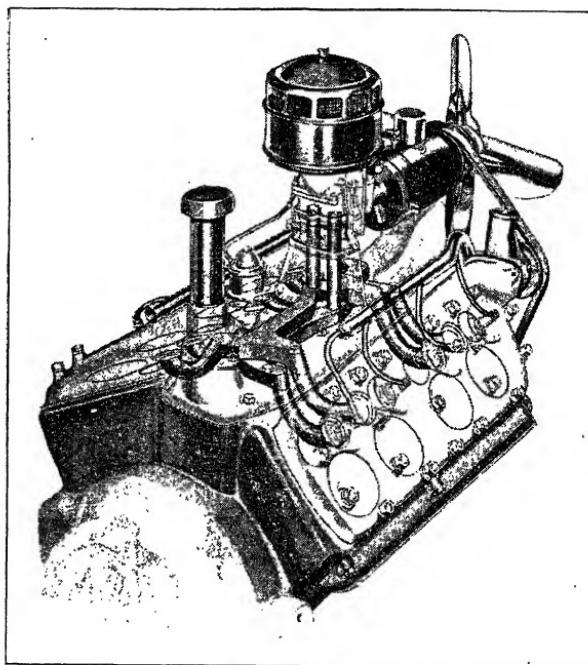

Fig. 9. Ford "V-8" Intake Manifold System
**Ford "V=8" Intake Manifold.** The intake manifolding system of the Ford "V-8", as well as the down-draft carburetor features are illustrated in Fig. 9. It will be noted here that the two barrels of the down-draft carburetor are connected with the riser tubes
Exhaust from the engine is conducted through passages cast in the cylinder block to the exhaust manifolds which are bolted to the outer edges of the two cylinder blocks. These passages are not shown in the phantom view, Fig. 9.